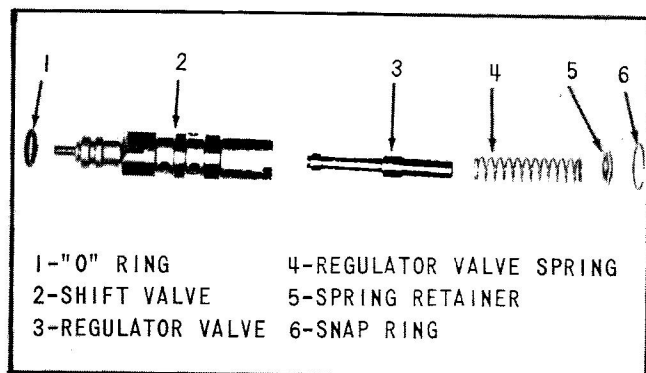

Fig. 33 Exploded View of Valve Assembly
1. Assemble regulator valve and spring into shift valve bore. Install spring retainer and press into place while snap ring is installed, (Fig. 33).